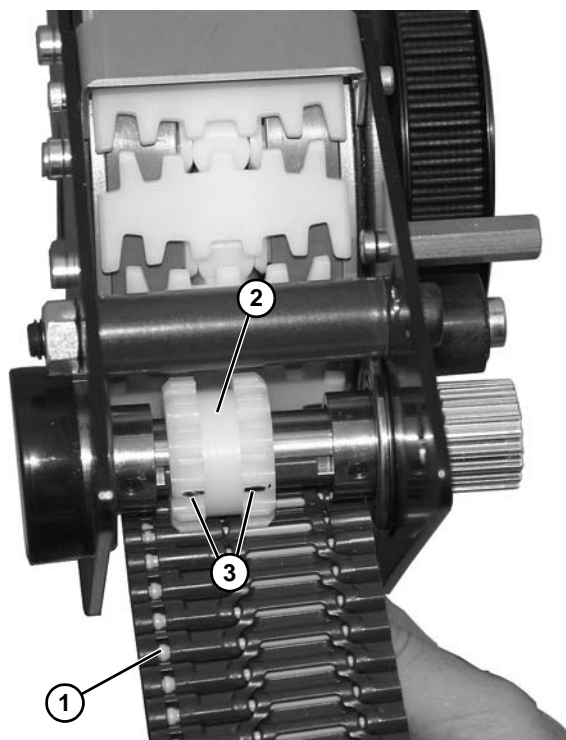

Figure 156
3. Raise belt (**Figure 156, item 1**) into position, and move gear (**Figure 156, item 2**) so that cogs line up with belt, as shown.
4. Tighten sprocket with set screws (**Figure 156, item 3**) in proper alignment with belt (**Figure 156, item 1**).